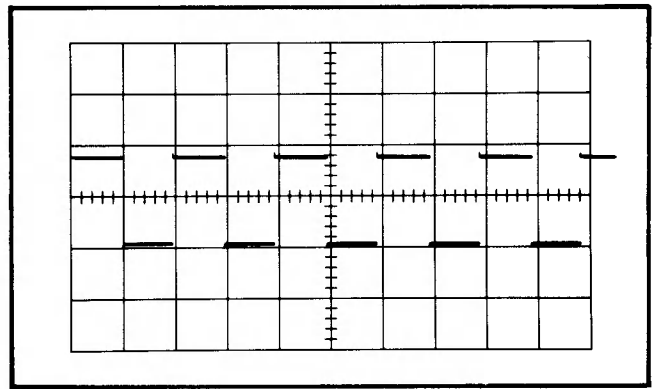

Fig. 7-22. Channel 1 trigger output amplifier gain.
c. CHECK—That the peak-to-peak amplitude of the display is two cm (1 V) ± 4 mm (see Fig. 7-22). This is a gain of $100\times$, $\pm 20\%$.